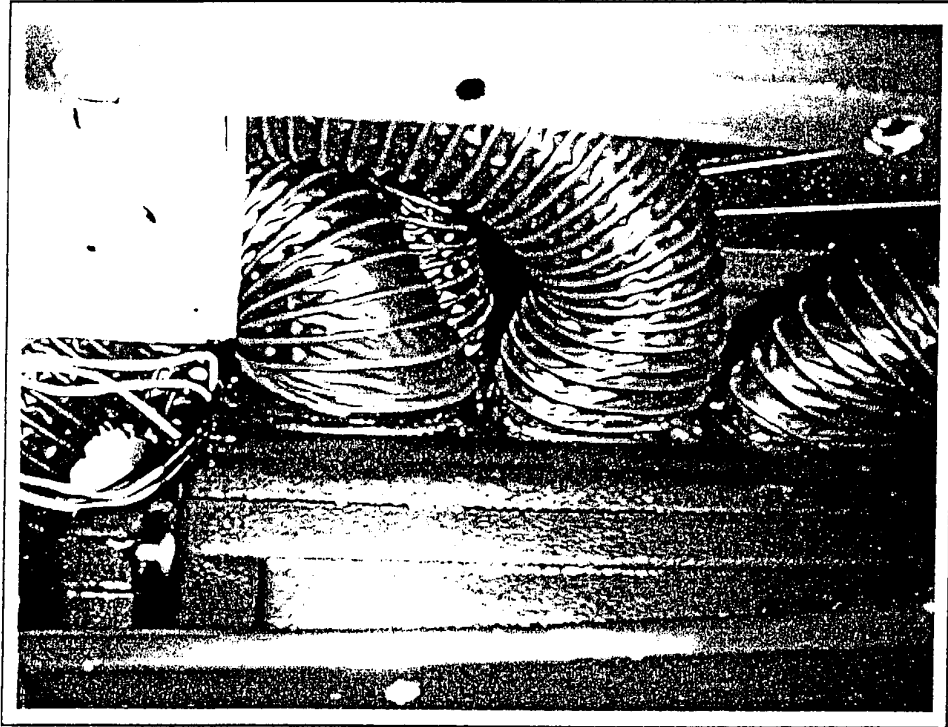

FIGURE 13
27. Secure 2" defrost duct hoses and 2-1/2" louver duct hoses to the evaporator. (FIGURE 13)